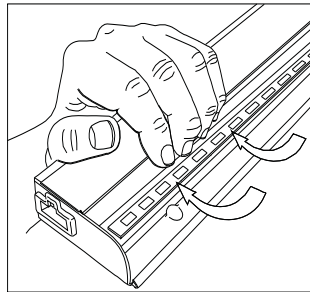

Figure 2
1. Open wireway cover by gently pressing inward to release cover from thumbnail lances on housing. **See Fig 2**
2. Locate wiring access plate on back of fixture. Remove Knock-out (KO).